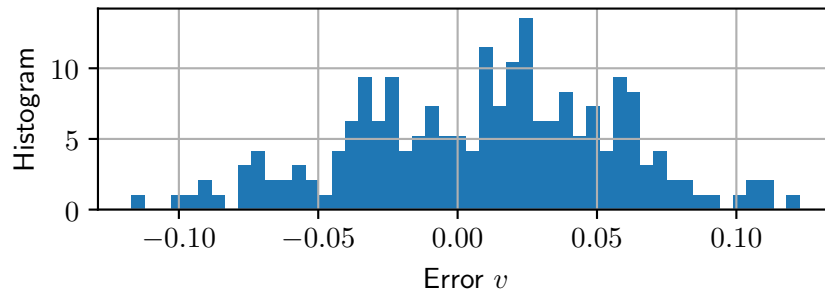

Figure 3: Histogram of errors between measured data and model for non-linear sensor calibration data in the range $0 \leq x \leq 1$.
7. Determine how good each sensor is, i.e., what is its variance, see Figure 3. The tricky aspect is that some sensors have a variance that varies with x . If this is the case, you need to create a model for this, i.e., you need $\sigma_{V(x)}$. Note, if the variance changes slowly with x , a simple look-up table would suffice.